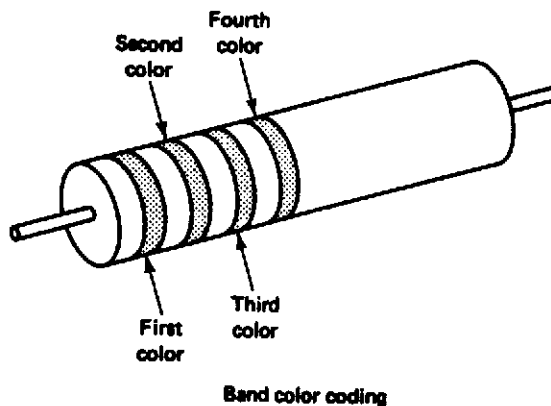

FIGURE 2-2A
1. The most significant things to learn when dealing with color-coded components are the meaning and placement of the colors on the body of the component. Figure 2-2A shows fixed resistors that employ the band system of color coding.